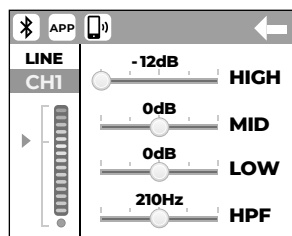

Fig.3
3. Repeat the operation to fix element **B** in the upper part of the system (Fig.3)
## 5.2 | CHANNEL MENU SCREEN (Fig.3)